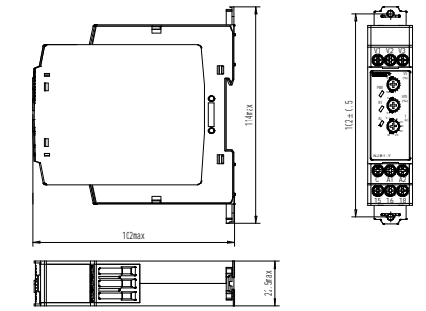

Figure 1 Overall Dimension of NJB1-Y Relays
- Overall dimensions of NJB1-Y single phase voltage relay: see Figure 1.